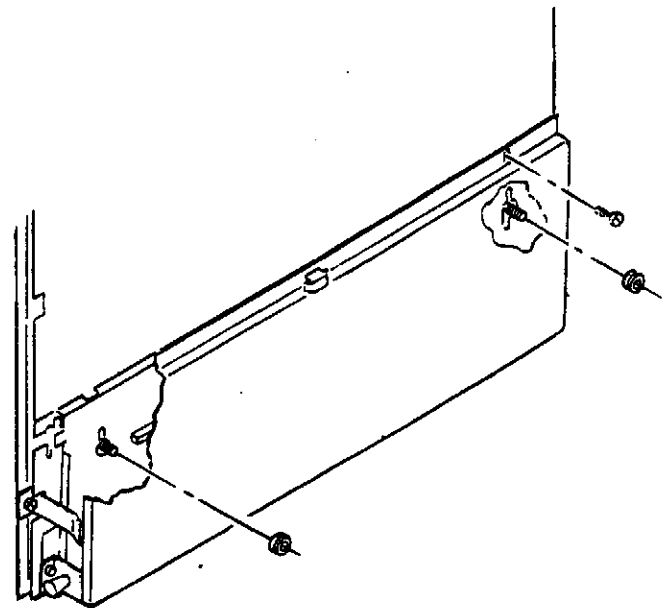

FIGURE 5
18. Swing out the cup dispenser assembly and remove the shipping screw from the logic control board cover. Lower the cover and remove the shipping thumb nuts from the LED/label access cover (Fig. 5). Then lower the second cover, install the price labels on the selection labels, and insert into the appropriate positions.